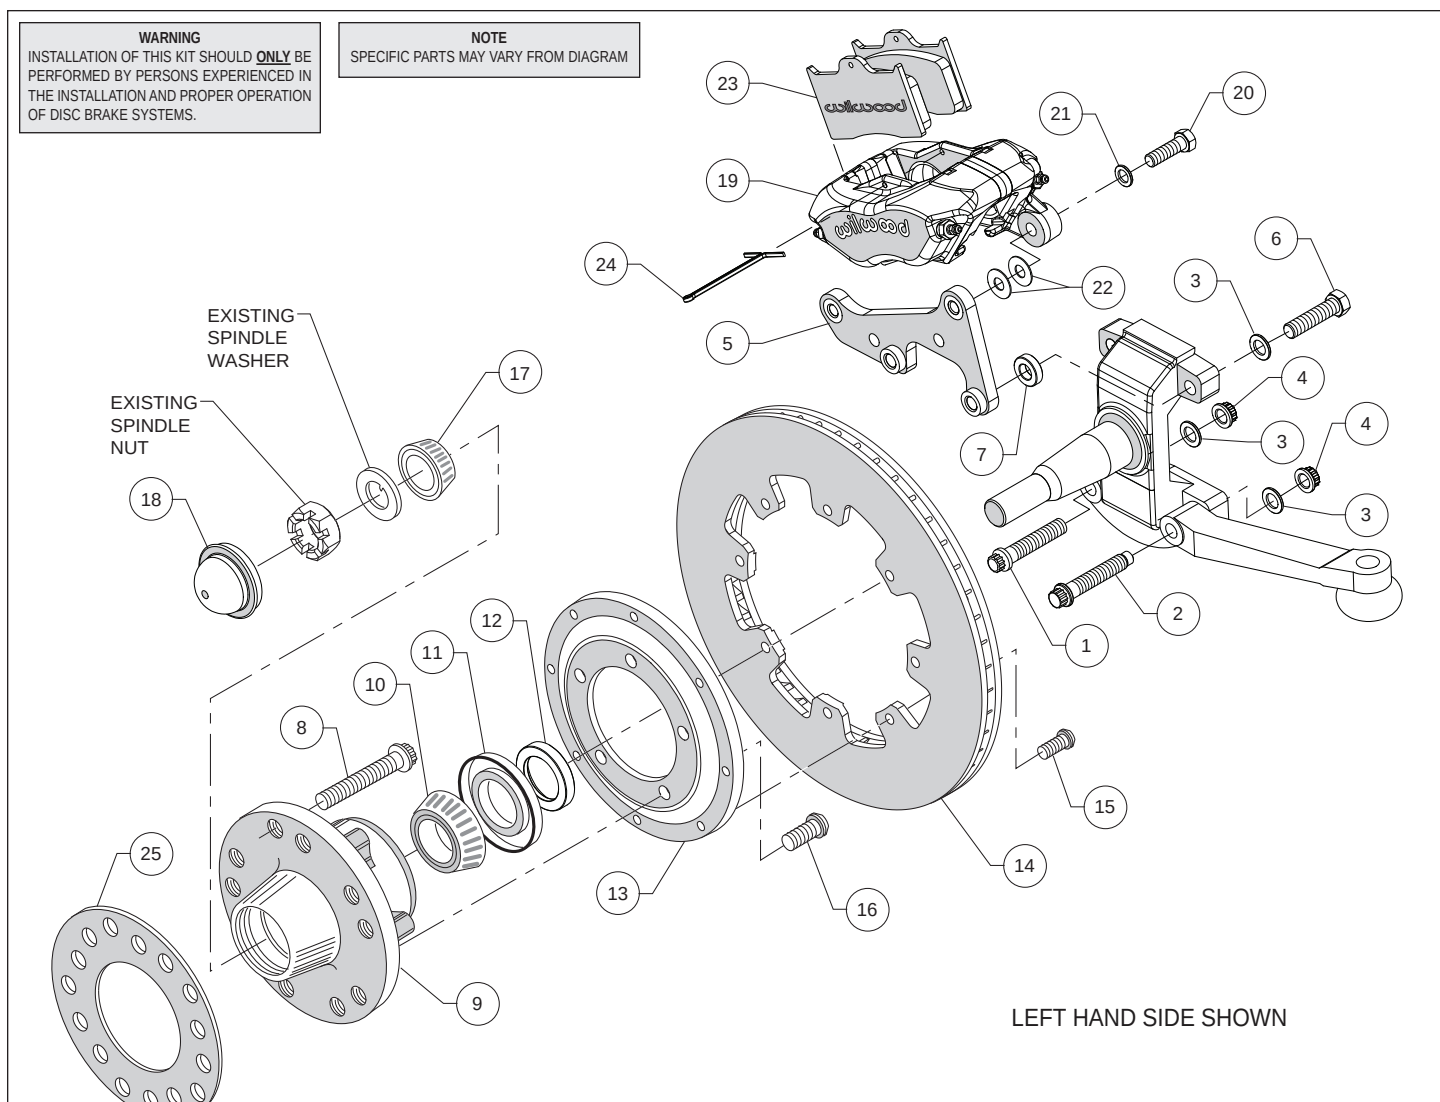
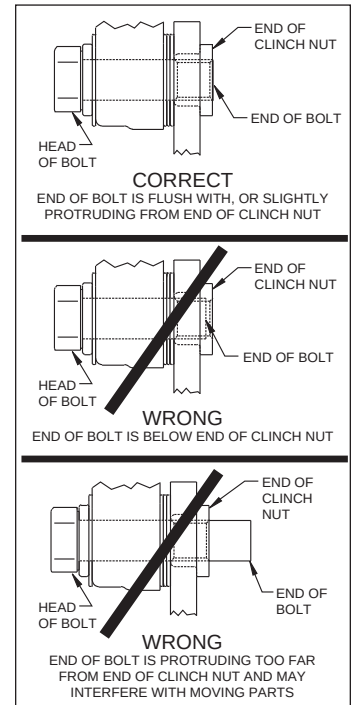

Figure 1. Typical Installation Configuration
Figure 3. Clinch Nut Engagement Diagram
Assembly Instructions (numbers in parenthesis refer to the parts list and Figure 1 on the preceding pages): **CAUTION:** All mounting bolts must fully engage clinch nuts. Be sure to check that all bolts are either flush or protruding through flanged side of clinch nut after shimming, Figure 3.
- One at a time, remove the two lower OEM bolts that secure the steering arm from the back side of the spindle. Replace with bolt (1), in the forward most hole, and bolt (2) in the rear hole, Photo 1. **NOTE:** The longer bolt with the end of the threads turned down is the steering stop. The new bolts are installed in the opposite direction as the original bolts, from the outside, Photo 2. Secure bolts using washer (3) and nut (4) as shown in Figure 1. Torque nuts to 47 ft-lb.
- Orient the caliper mount bracket (5) as shown in Figure 1 and Photo 2, and install using bolts (6) and washers (3). Place spacers (7) between spindle and bracket. Ensure that the flanged heads of the clinch nuts in the bracket are facing outboard, Photo 2. Temporarily tighten the mounting bolts. **NOTE:** The bracket must fit squarely against the mount bosses on the upright. Inspect for interference from casting irregularities, machining ridges, burrs, etc. Remove bolts one at a time, apply red Loctite® 271 to the threads and torque to 60 ft-lb.
- Install wheel studs (8) into the hub (9), Photo 3. Torque to 77 ft-lb. **NOTE:** There are two five lug patterns in the hub (5 x 4.75 and 5 x 5.00). Ensure the correct hub stud pattern is being used to fit the wheel application.
- Pack the large inner bearing cone (10) with high temperature disc brake bearing grease (available from your local auto parts store) and install into the backside of the hub (9), Photo 4.
- Install the grease seal (11) by pressing into the backside of the hub (9), flush with the end of the hub, Photo 4.
- Orient the rotor (14) and the rotor adapter (13) as shown in Figure 1 and Photo 5. Attach the rotor to the adapter using bolts (15). Using an alternating sequence, apply red Loctite® 271 to the threads, and torque to 25 ft-lb.
- Mount the adapter/rotor assembly (13/14) to the hub (9) using bolts (16), as shown in Figure 1 and Photo 6. Using an alternating sequence, apply red *Loctite*® 271 to the threads, and torque to 55 ft-lb.
- Press the dust cap (18) into the hub (9), Photo 9.
- NOTE:** Please reference the caution statement at the beginning of the assembly instructions. Mount the caliper (19) onto the caliper mounting bracket (5) using bolts (20) and washers (21), as shown in Figure 1. Initially place two .035" thick shims (22) on each bolt between the caliper and the bracket, Photo 10. Temporarily tighten the mounting bolts and view the rotor (14) through the top opening of the caliper. The rotor should be centered in the caliper, Photo 11. If not, adjust by adding or subtracting shims between the bracket and the caliper. Always use the same amount of shims on each of the two mounting bolts. **NOTE:** The end of each bolt must be flush with or slightly protruding from the head of the clinch nut, as shown in Figure 3. If necessary place spare shims between washer (21) and caliper mounting ear to achieve the proper clinch nut engagement. Once the caliper alignment and clinch nut engagement are correct, remove the bolts one at a time, apply red *Loctite*® 271 to bolt threads, and torque to 40 ft-lb.
- Install the disc brake pads (23) into the caliper, with the friction material facing the rotor (14), and secure in place using cotter pin (24), Photo 12.
- Install wheel spacer (25) as shown in Figure 1 and Photo 13. Temporarily install wheel and torque lug nuts to manufacturer's specification. Ensure that the wheel rotates freely without any interference. **NOTE:** Wheel spacer (25) MUST be used if any wheel contact surfaces overhang the outside diameter of the hub face. See warning on page 3.